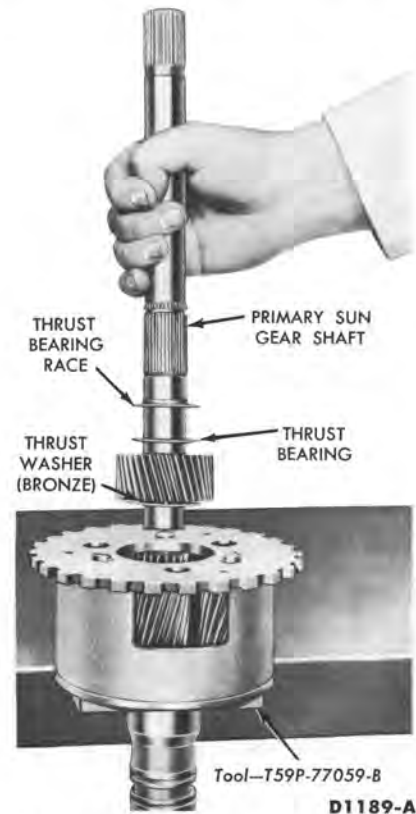

FIG. 17—Primary Sun Gear Removal or Installation
5. Remove the integral primary sun gear and shaft (Fig. 17).
7. Place the primary sun gear shaft in the pinion carrier (Fig. 17).